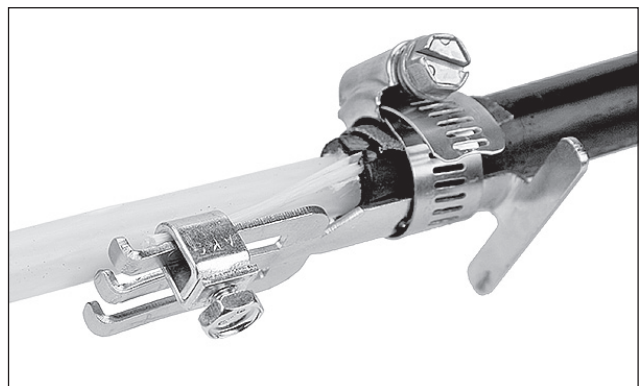

Figure 3
- 3.4.2 If cable has dual strength members, assemble strength member clamp onto strain relief bracket as shown in Figure 3.